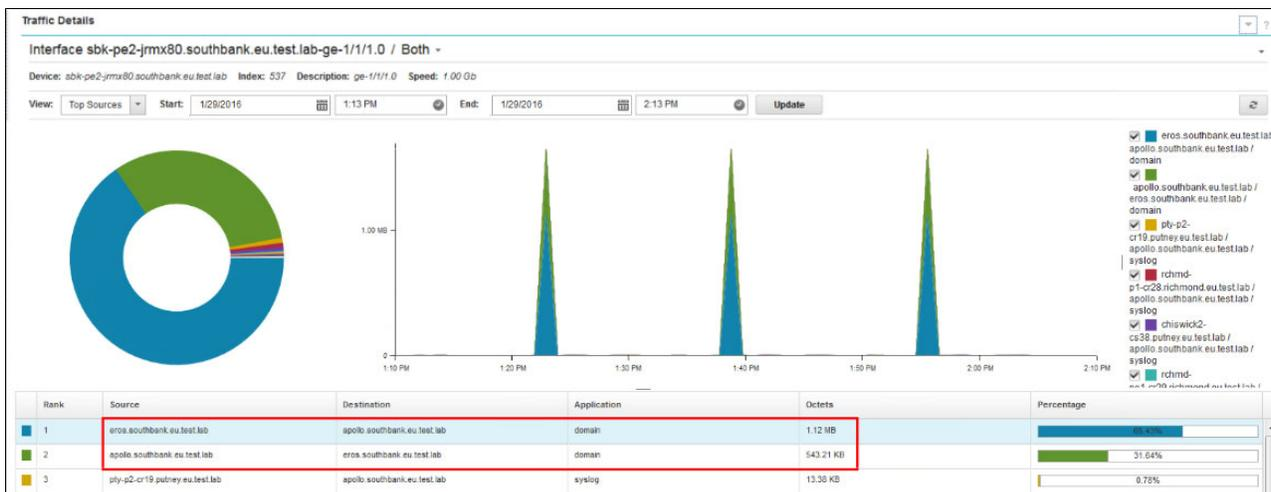

Figure 2-36 Reviewing traffic from one week previous
11. Brock reviews traffic from one week ago and observes that DNS Zone traffic was flowing between Primary and Secondary DNS servers, as shown in Figure 2-36.